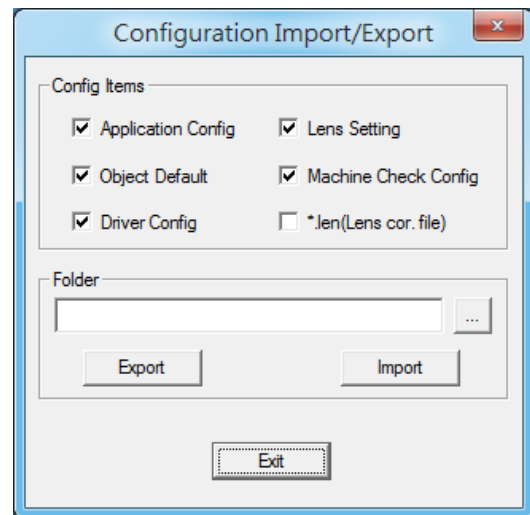

Fig. 1.1.74
1. Click on “File”→“Configuration Import/Export” to bring out dialog seen as fig. 1.1.74.